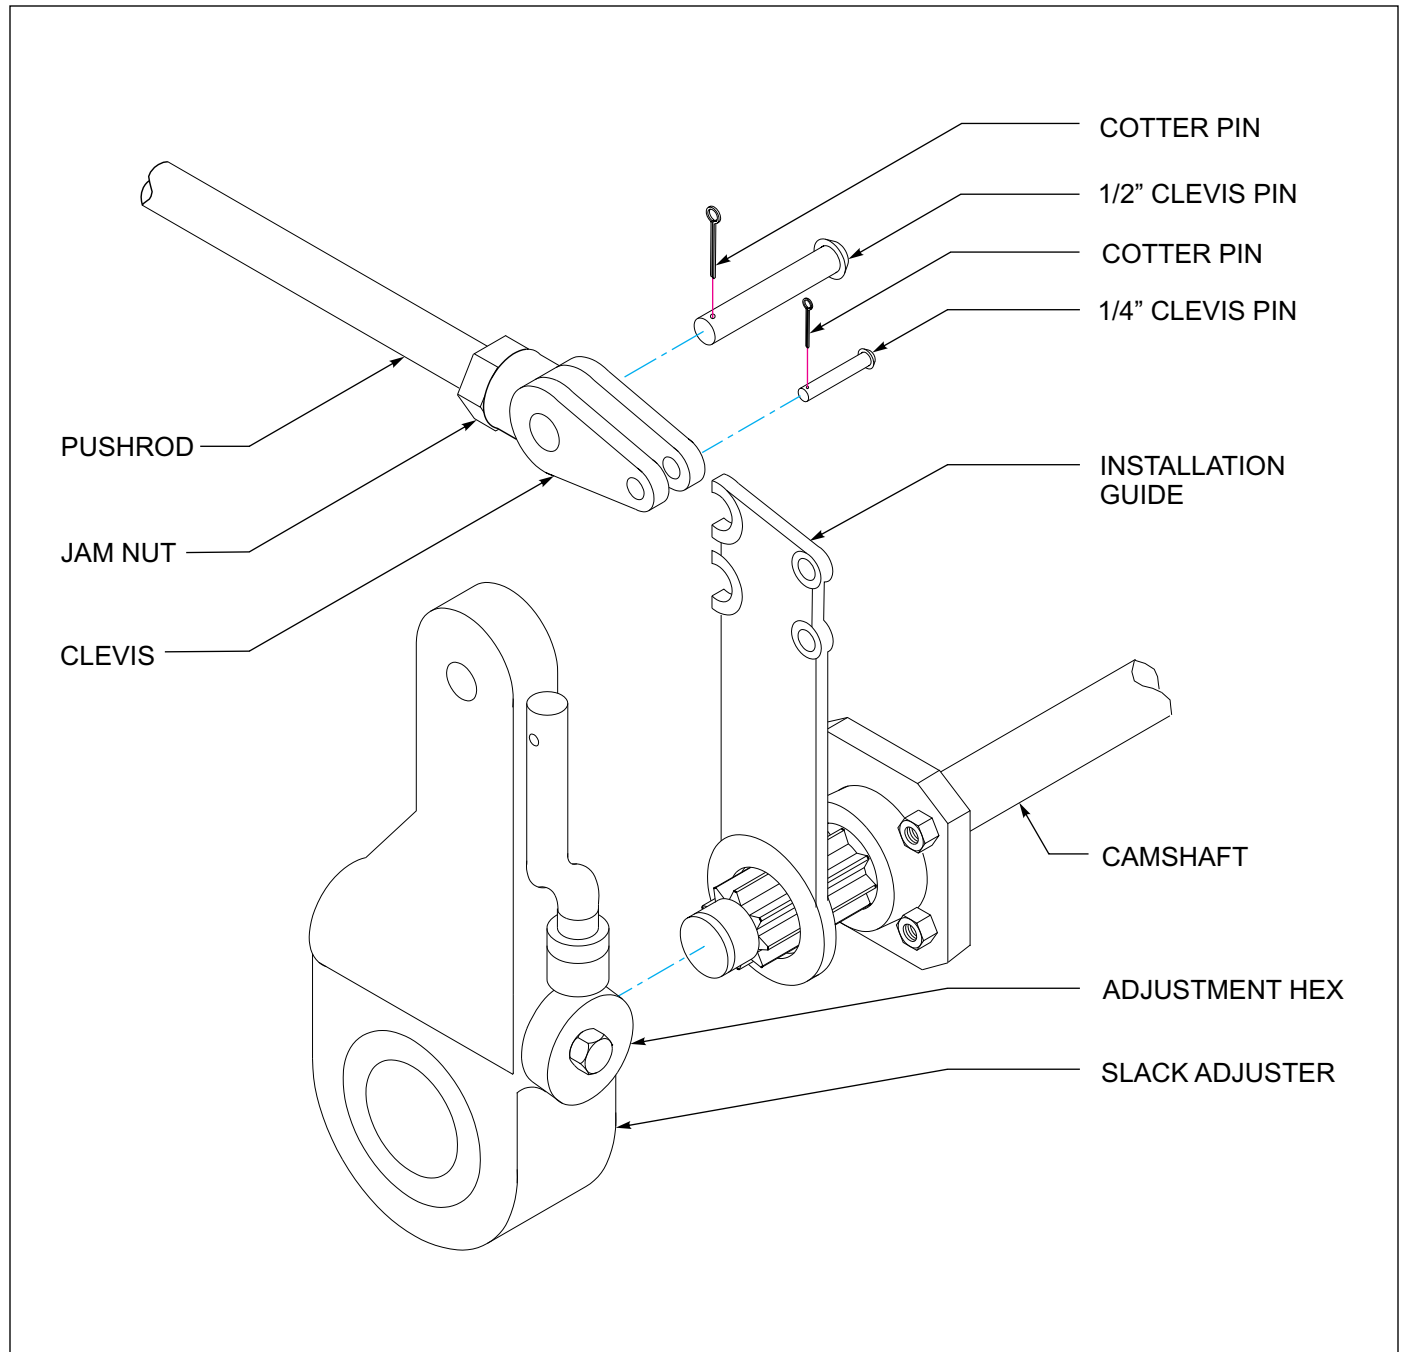

Figure 4-13: Slack Adjuster
2. Check that the push rod is fully retracted, apply air to release spring brake (See Figure 4-13.)